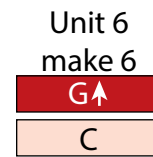

Fig. 8
6. Sew (1) $2'' \times 6\frac{1}{2}''$ Fabric G strip to the top of (1) $2'' \times 6\frac{1}{2}''$ Fabric C strip lengthwise to make (1) Unit 6 strip (Fig. 8). Repeat to make (6) Unit 6 strips total.